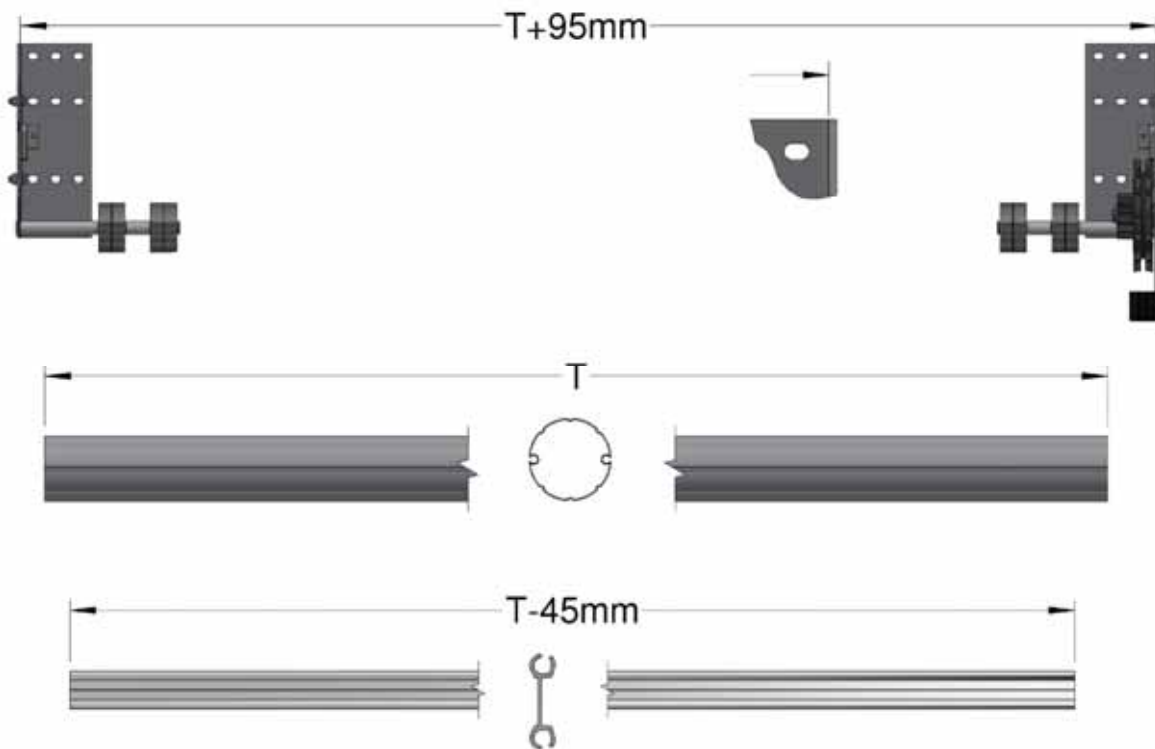

Figure 4b, Top Bracket Spacing When Not Cutting Tube
- 3b If your door can be mounted without cutting the top tube, follow the dimensions shown in Figure 4b, note the tension bars, fabric, bottom tube and flap will always have to be cut.